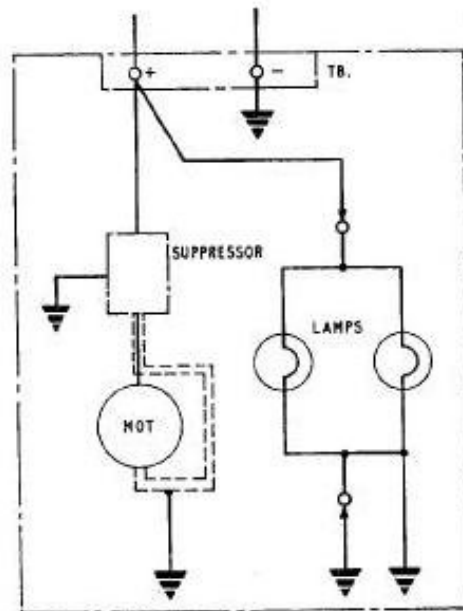

Fig. 1. Circuit diagram
1. This lamp is identical to that described and illustrated in the main chapter. A circuit diagram is given in fig. 1.